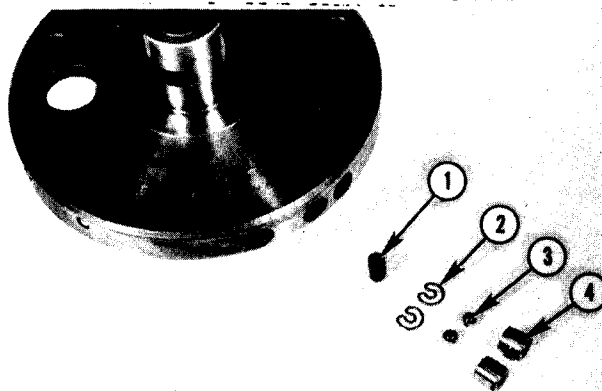

FIG. 4.59-CHECK VALVE PARTS
d. Fig. 4.59 shows check valves removed, No. 1, spiral pin, No. 2, retaining rings, No. 3, balls, No. 4, valve bodies.